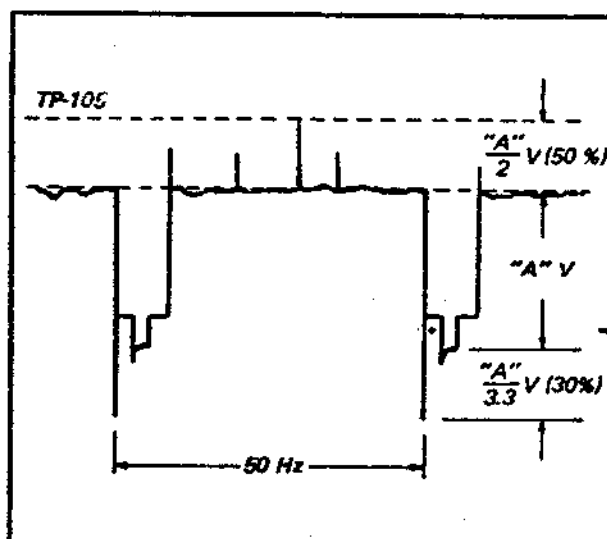

Fig. 5-1. White clip and dark clip levels
12. Adjust R238 so that the negative spike in the vertical blanking pulse falls 30% below sync tip amplitude. See Fig. 5-1.
13. Adjust R237 (White Clip) so that extreme peak-white parts of the waveform are $A + \frac{A}{2}$ volts (p-p) as shown in Fig. 5-1.